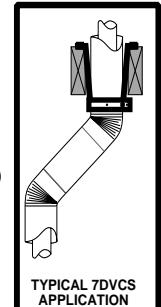

Fig. 58
- e) 7DVCS must be used to support offsets. (Fig. 58)